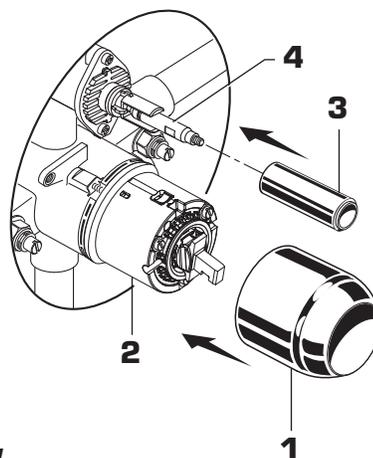

Figure 1.
- **Figure 1.** Push CAP (1) over VALVE CARTRIDGE (2) until seated against stop. Push CAP (3) over DIVERTER (4) until seated against stop.